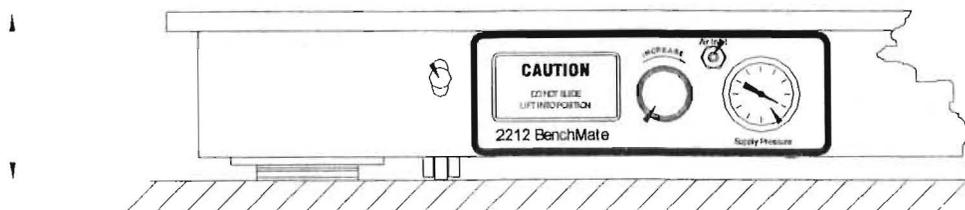

Fig. 2, 2212 Control Panel/Air Fill Illustration.
4. Adjust the height of the system by turning the height adjustment screws clockwise to raise the system or counterclockwise to lower the system. There are three height adjustment screws, two for the front to back adjustment and one for the left to right adjustment. (as shown in Fig. 2, 3a and 3b).
Piston or pistons too high.	Lower the piston(s) by turning height adjustment screws counterclockwise (see Fig. 2).
Piston or pistons too low.	Raise the piston(s) by turning height adjustment screw and adding air. (see Fig. 2).